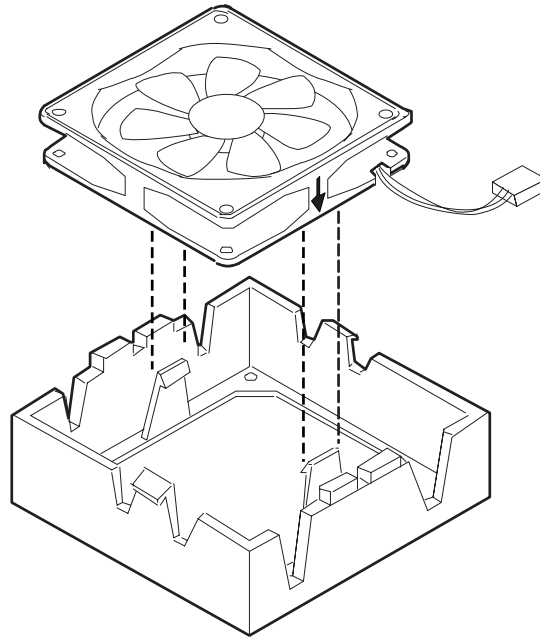

Figure 10-2. Front Fan Assembly
5. Remove the fan from the plastic housing by pushing the inner flexible tabs on the housing away from the fan. Retain the housing. Figure 10-2.